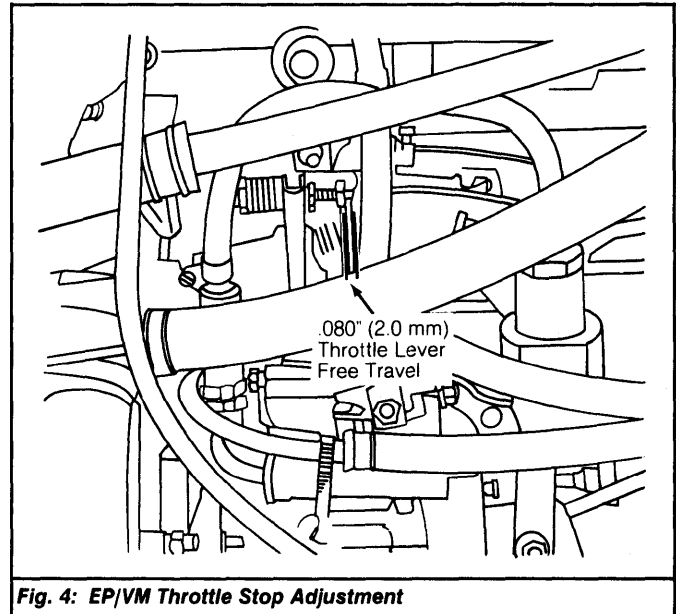

Fig. 4: EP/VM Throttle Stop Adjustment
2) Push accumulator lever to fully open position (minimum engine speed). Adjust idle speed to 730 RPM with a .080" (2.0 mm) throttle lever free travel. See Fig. 4.